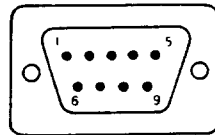

Fig 3-1 9-Pin Colour Monitor
- * VIDEO SIGNAL CABLE: A 1.5m cable, terminated with a 9 Pin D-type connector, supplies video and sync. signals to the monitor. The cable is attached to the monitor and is not detachable. Fig 3-1 illustrates the D-type connector. Table 3-1 lists the connector signal for each mode of operation.